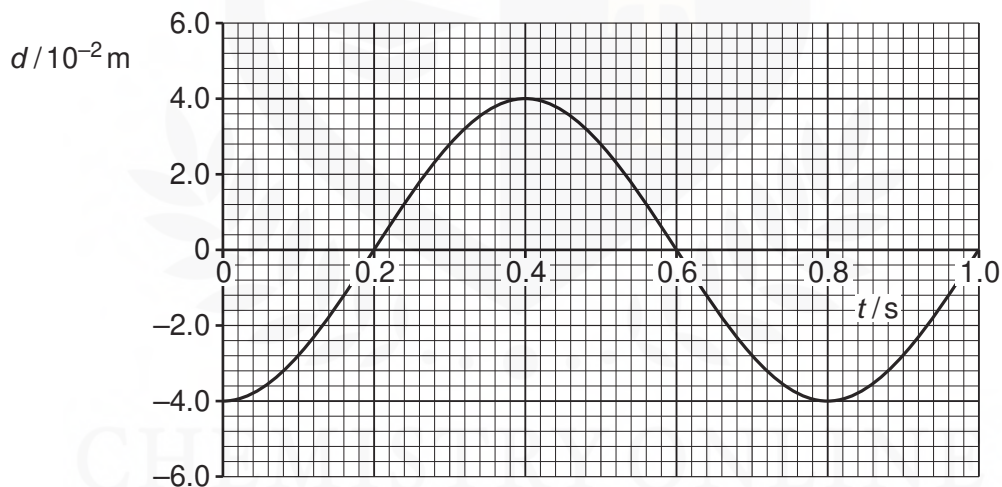

Fig. 3.2
- (b) The mass is pulled down and then released at time $t = 0$. The mass oscillates up and down. The variation with t of the displacement of the mass d is shown in Fig. 3.2.
Use Fig. 3.2 to state a time, one in each case, when